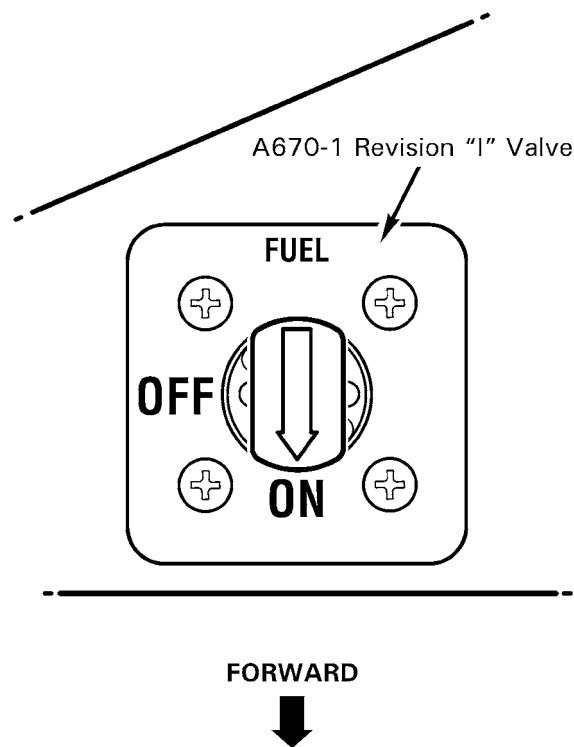

FIGURE 1
1. Refer to Figure 1. If A670-1 revision I (or subsequent) fuel valve is installed, the requirements of this bulletin have been met and no further action is required.
3. Defuel helicopter per R22 Maintenance Manual (MM) § 1.150.